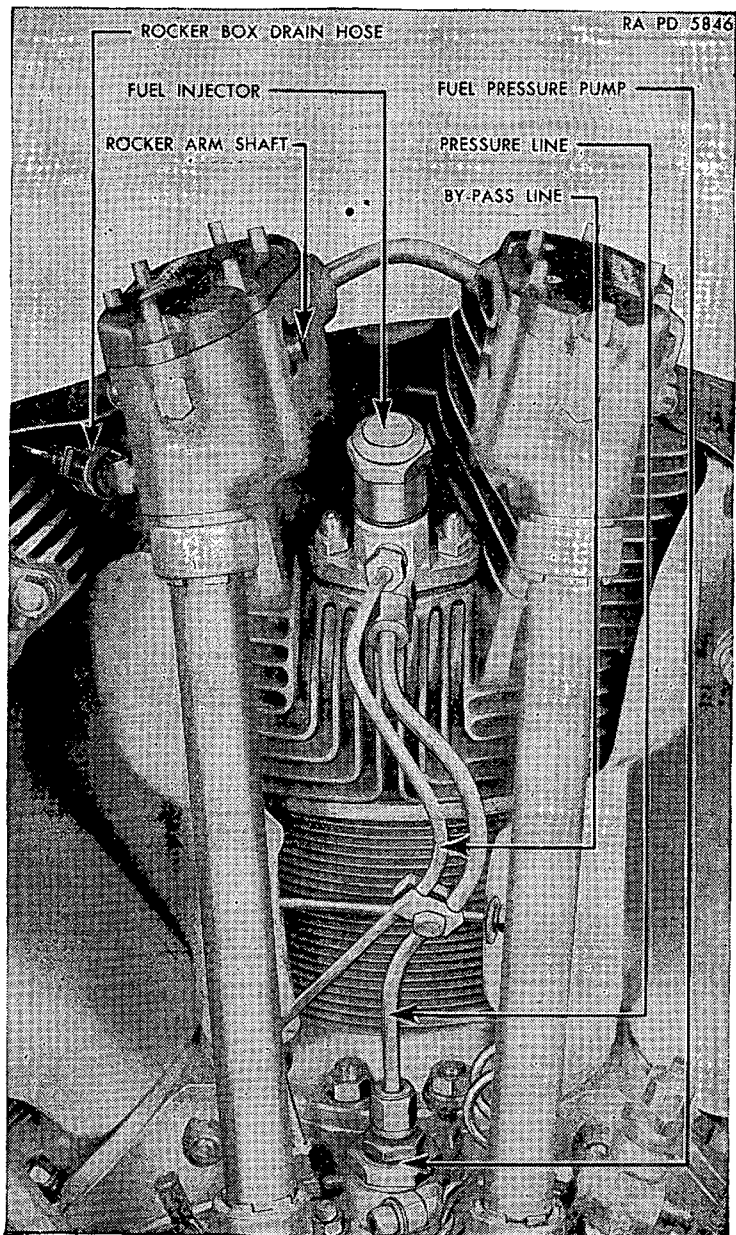
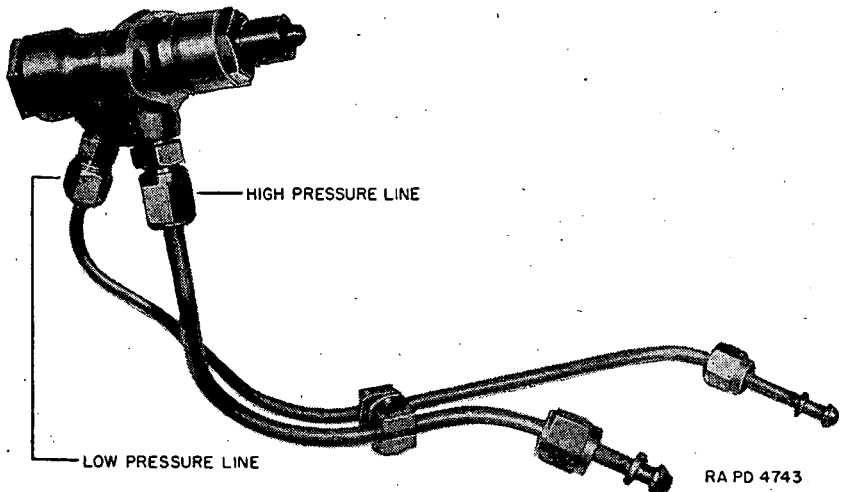

FIGURE 40.—Rear view of No. 1 cylinder, Guiberson T-1020.
FIGURE 42.—Fuel injector valve, Guiberson engine.
67. Fuel pressure pump (fig 40).—Each cylinder has an independent high pressure pump connected to the fuel injector by means of thick wall high pressure tubing (fig. 42). The pumps are mounted on the rear half of the crankcase in back of their respective cylinders. In operation these pumps produce enough pressure to force fuel through the fuel injector valves, and also control the quantity of fuel going into the combustion chambers. Replacement of a fuel pressure pump will not be attempted by the using arm personnel.
68. Fuel injector (fig 42).—*a. Description.*—On each cylinder head a fuel injector atomizes the fuel sprayed into the combustion chamber.
b. Replacement.—(1) To remove the fuel injector, use the following procedure:
- (2) To replace pump, proceed in reverse order.
71. **Cartridge starter** (fig. 42).—*a. Description.*—Cartridge engine starters derive their power for operation from the gas pressure developed when a cartridge is fired. A fresh cartridge is required for each start. The complete starter and breech assemblies consist of—